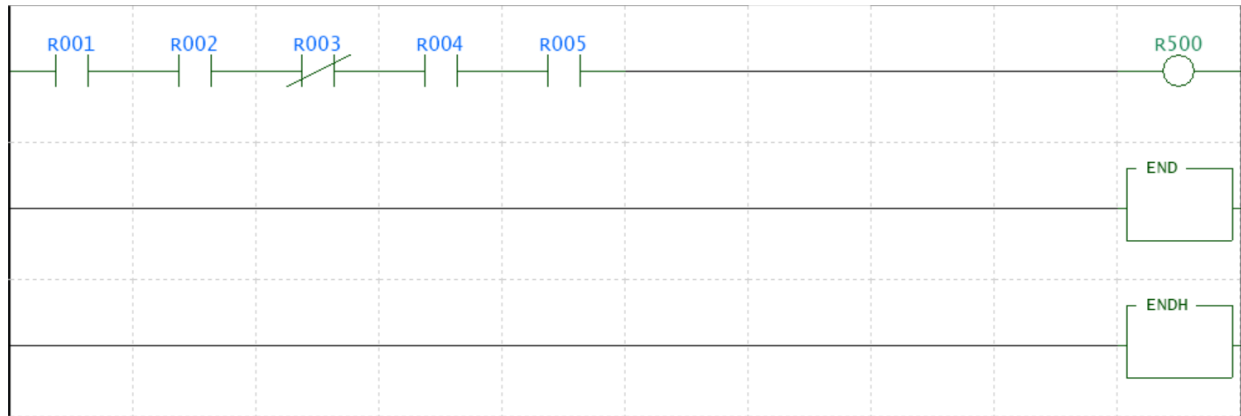

Figure 3(c)
- (c) Justify how the processor handles the arrangement of series instructions of a rung programmed for a given ladder logic diagram as shown in Figure 3(c). Use the given figure to aid your explanation.